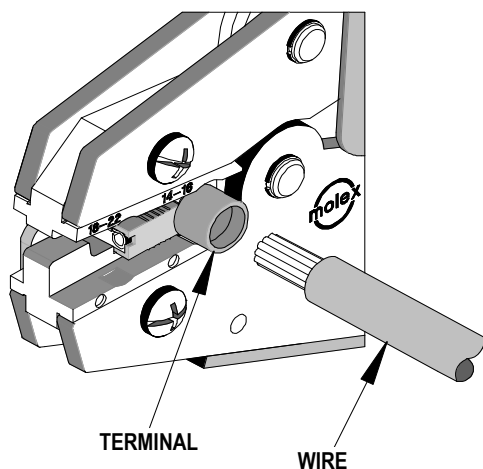

Figure 2
2. Partially close the tool to hold the terminal in place. See Figure 2.
3. Insert the properly stripped wire into the terminal barrel. See Figure 2 and 3.